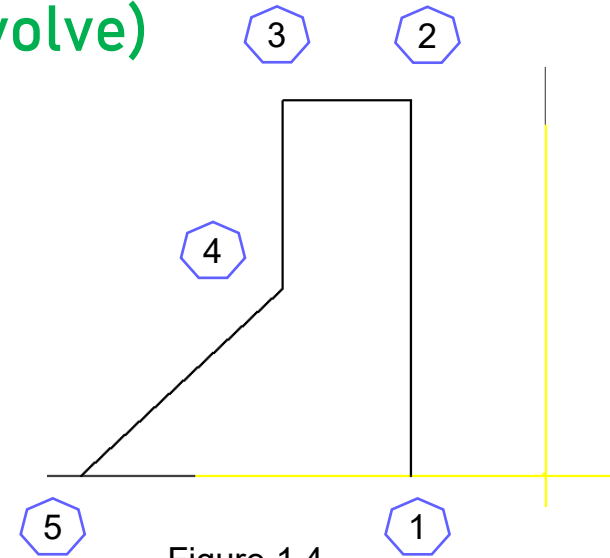

Figure 1.4
5. By using 'Line' command, create the shape as per shown in the Figure 1.4.